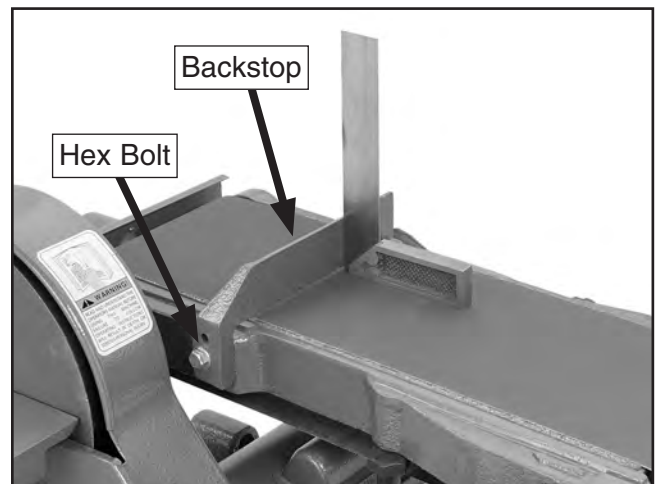
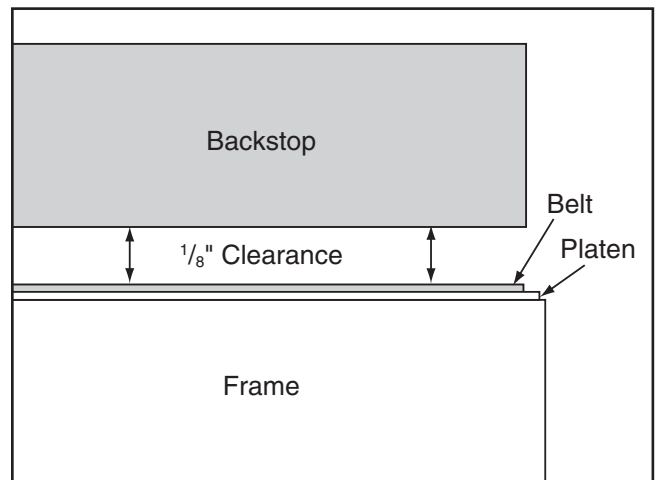

Figure 42. Adjusting backstop square with belt.
Figure 43. Correct clearance between backstop and belt.
29. Place a square flat against the sanding belt and back stop (see **Figure 42**) adjust the backstop flush with the square on both sides of the belt and $\frac{1}{8}$ " above the belt (see **Figure 43**), then tighten the hex bolt.